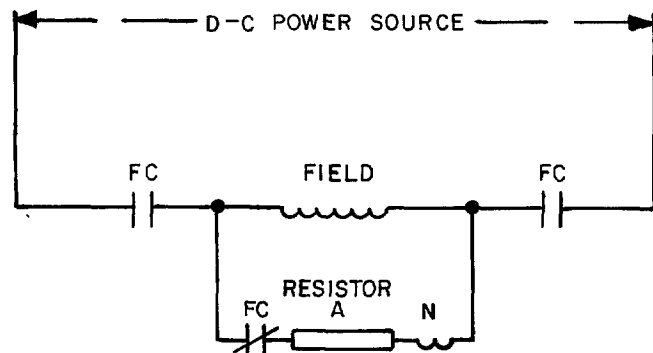

Figure 11. Contactor poles which connect dc power source to motor field.
OPERATION (SEE FIGURE 11)
The normally open poles (FC) of this contactor are usually connected to a motor field as shown in Figure 11. These poles will close and open the dc field of the synchronous motor. The normally closed power pole (FC) inserts discharge resistor "A". This resistor (A) limits ac induced current during startup and also limits the dc field-discharge current. The discharge current flows after the normally open poles are again opened when the contactor is de-energized. The resistance of resistor, (A), must be supplied by the motor designer. Unit "N" is a motor-protective device which also is not supplied with this contactor.